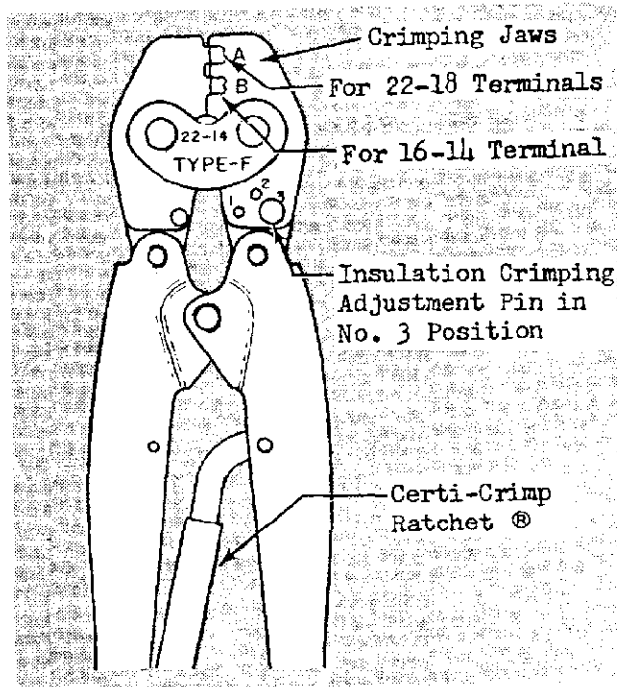

FIG. 1
1. This Tool, see Figure 1, are used to crimp A-MP 22-18 and 16-14 Series 250 Faston Terminals. To open Crimping Jaws, squeeze Handles until Certi-Crimp Ratchet, see Figure 1, is released. Handles will open automatically. Note that once Ratchet is engaged, Handles cannot be opened.
- The Insulation Crimping Jaws, see Figure 1, have 3 Adjustments.